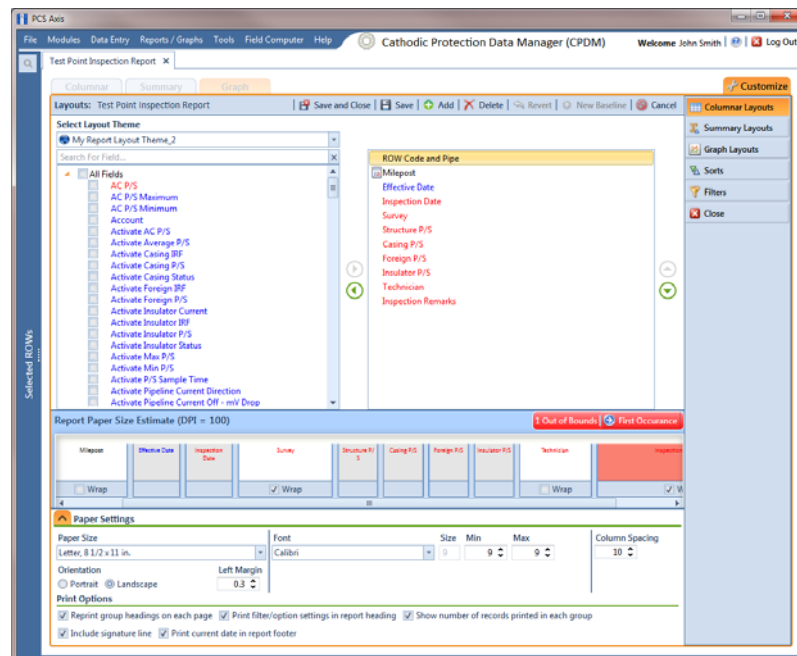

Figure 15-32. Columnar Layouts
- 8 Complete the following steps to add and remove fields in the report layout theme as needed (Figure 15-32, page 613):
- 10 Click  **Paper Settings** to open the property settings panel (Figure 15-32).
- a Place the mouse over a column boundary to change the cursor to a horizontal resize cursor  (Figure 15-32).